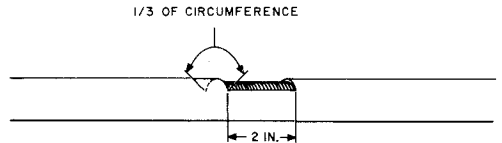

Fig. 7—Sheath Removal at Valve Point
- (1) Remove the outer polyethylene jacket from the top of the cable at the location of the desired valve point (Fig. 7).